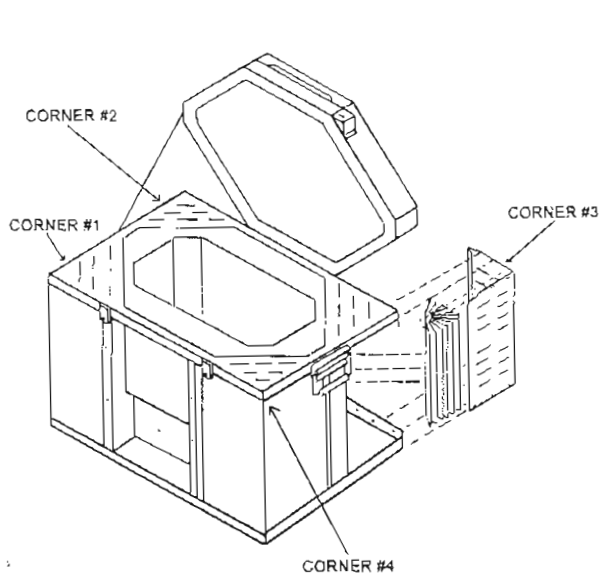

Figure 3-19. Corner covers.
(1) Drill out 10 pop rivets, securing a corner cover (fig 3-19) to the unit. Use a 1/8 inch diameter drill. Remove corner cover.
(2) Remove the 10 screws fastening the control panel.
(3) Remove the 4 screws located inside the cooling compartment securing the defective thermoelectric assembly.
(4) Remove the thermoelectric assembly from the unit, pulling the red and black wiring out of the insulation foam.
Thermoelectric assembly A-2437 is for corner #1. Thermoelectric assembly A-2436 is for corners #2, #3, and #4. Refer to figures 3-19 and 3-20.